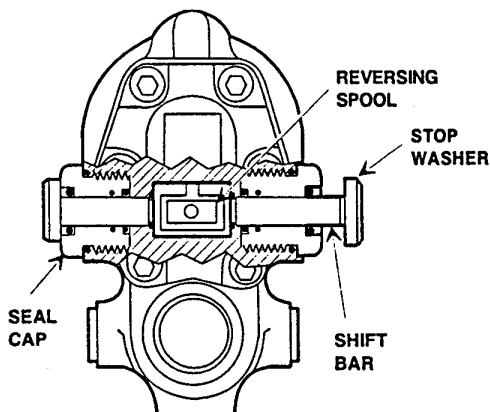

Figure 2.
1. Place the reversing spool at the center of the shift bar and then secure it using the two retaining rings (Figure 2).
10. Rotate the reversing spool so that its **small** horizontal groove faces straight back toward the motor cap end of the main body. The tip of the idler shaft must fit in this groove. (See Figure 2.)
Spools incorrectly installed.	Reverse spool upside down. Reassemble. See SERVICE INSTRUCTIONS, figure 2.